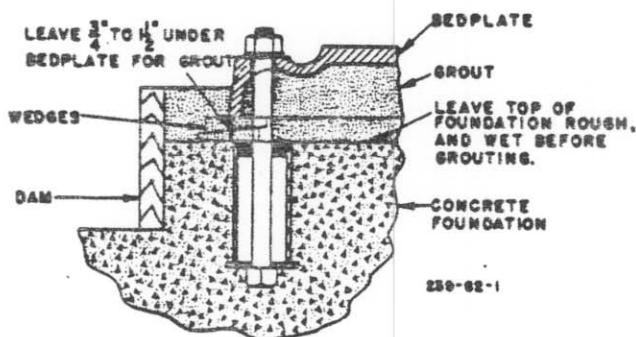

Fig. 1
washer between bolt head and sleeve to hold bolt in position. See Fig. 1. Stuff waste around foundation bolts to prevent concrete from entering between the bolt and pipe sleeve.
- (c) The foundation bolts should be of sufficient length so that they project through the nuts approximately  $\frac{1}{4}$ " after allowance has been made for grouting ( $\frac{3}{4}$ " to  $1\frac{1}{2}$ " ), the thickness of the bedplate, and the thickness of the foundation bolt nut. See Fig. 1.
- (a) Build wood dam around foundation as shown in Fig. 1 and wet top surface of concrete foundation thoroughly.